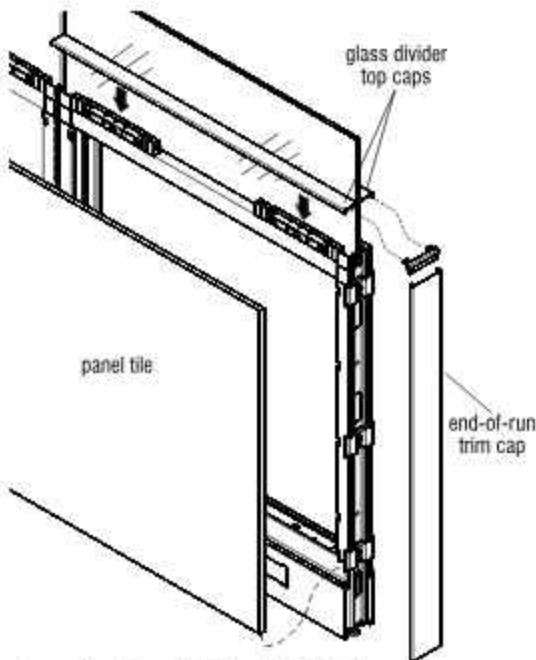

Figure 6 - Panel & Trim Installation
8. Per "Fabric Tile-" or "Steel Tile & Steel Markerboard Tile Installation" instructions outlined on page 46 or 47, depending on the type of tile being installed, install panel tiles to divider panel frame on both sides of the frame (Figures 6, 7 & 8).
9. Center the glass divider top caps over the top of the panel frame, on both sides of the glass divider as illustrated. Gently press the caps down to engage the top caps to the mounting blocks (Figures 6, 7 & 8).
11. Intersection and end-of-run trim and caps are installed as outlined in "Vertical End-of-Run & Change-of-Height Vertical Trim Installation" section, page 64 (Figures 6, 7 & 8).